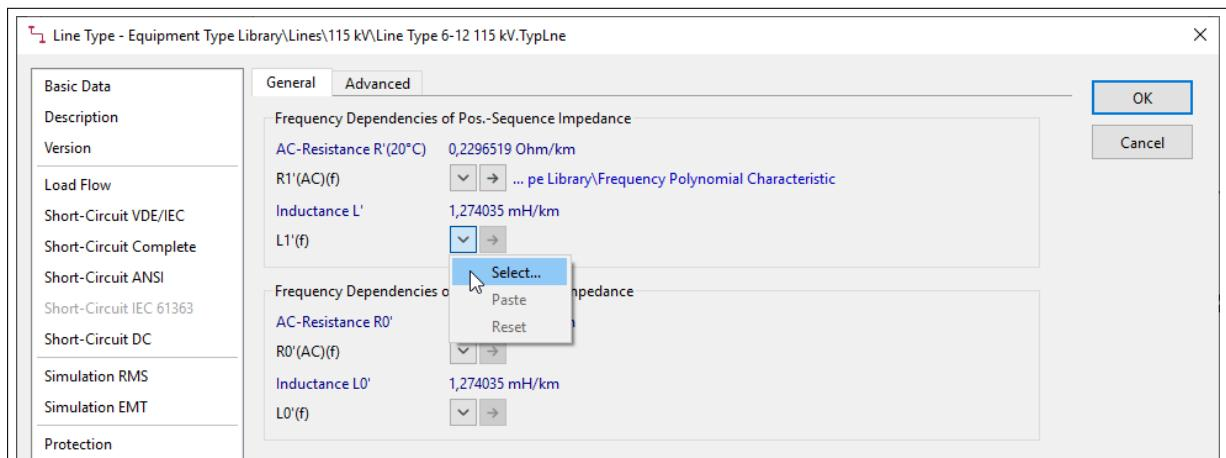

Figure 36.5.2: Frequency Dependencies in a Line Type
*ChaVec*). These kinds of characteristics are then assigned via the *Power Quality/Harmonics* page of the corresponding element's dialog, as illustrated by the example in Figure 36.5.2 for a line type.
An example of the use of the polynomial characteristic for a line type is shown in Figure 36.5.2.